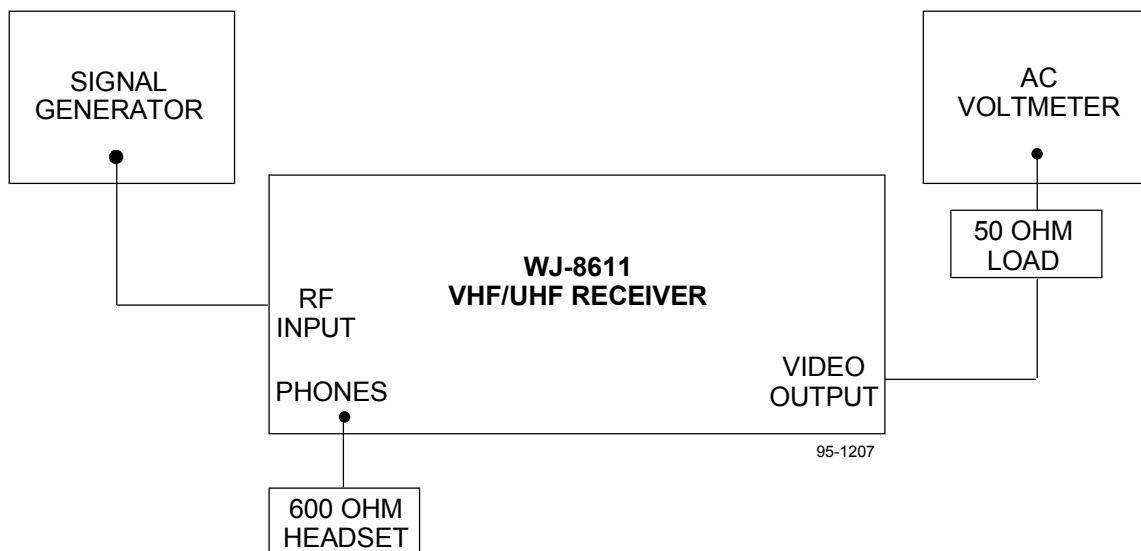

Figure 6-6. Video Output Performance Test, Equipment Connection
1. Connect the signal generator to the RF Input of the receiver. Connect the AC voltmeter, and 50-ohm load to the Video Output, as illustrated in **Figure 6-6**.